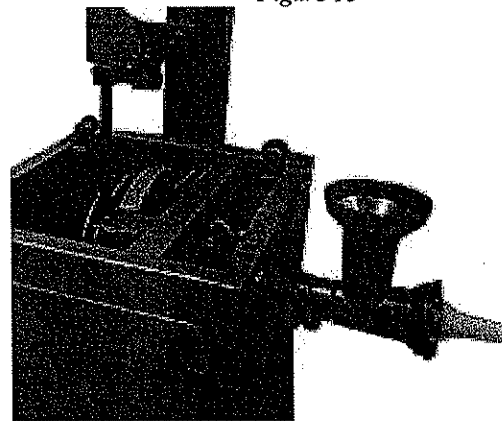

Figure 14
- 2 Put the body of the grinder into the seat and tighten the handle.(Fig. 14)